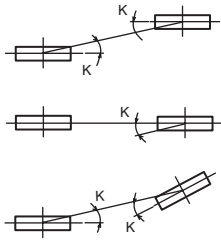

figure1 Parallel degree of pulley
1. Set the parallel angle of the fan and the motor pulley as shown in the table and figure 1 below.
2. Set the tension of the per one belt when the flexion load is within the range as shown in the figure 1 and table 2 below at the proper flexion. ($A = 0.016 \times C$ mm)